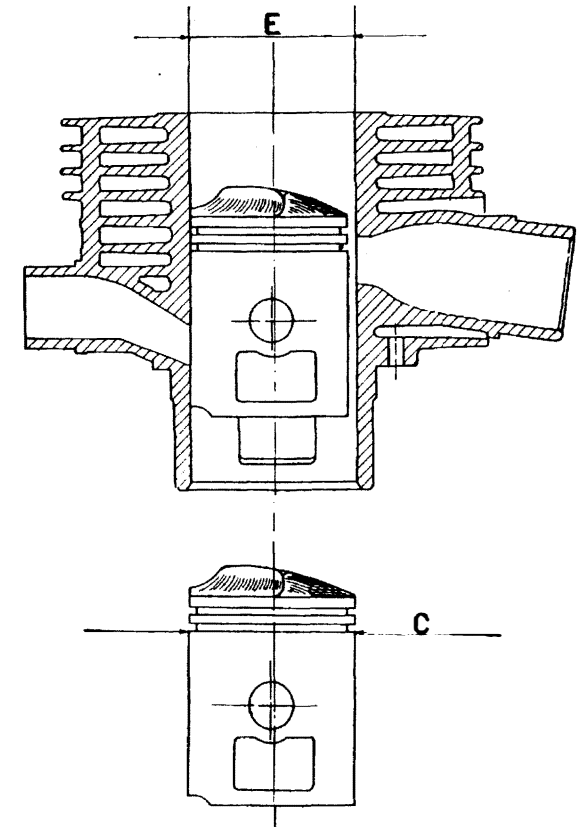

Fig. 14
- On assembling the piston into the cylinder ensure that the **arrow stamped on the piston crown (dome headed piston for mod. VNB) is facing towards the exhaust port; deflector pistons** (for old models of Vespa) should be mounted so that the **deflector is turned towards the exhaust port as illustrated at fig. 14.**
- **On assembling the piston into the cylinder ensure that the deflector is facing the exhaust port as indicated on fig. 14.**